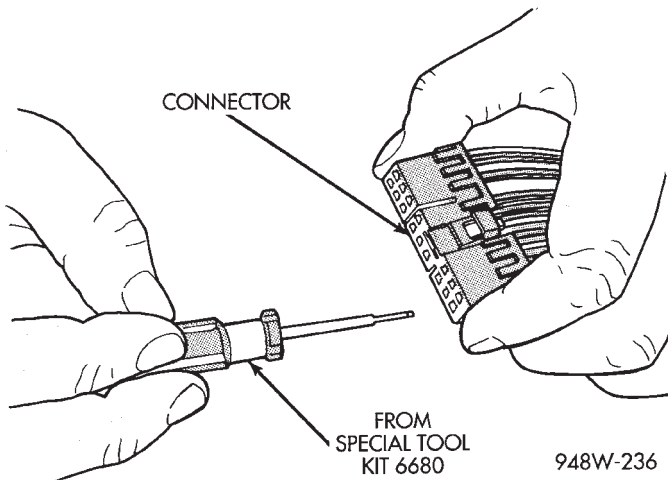
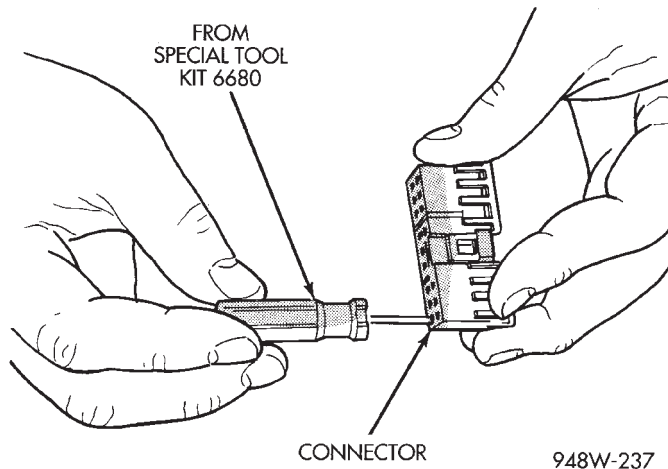

Fig. 18 Terminal Removal
Fig. 19 Terminal Removal Using Special Tool
- (4) Position the connector locking finger away from the terminal using the proper pick from special tool kit 6680. Pull on the wire to remove the terminal from the connector (Fig. 18) (Fig. 19).
- (5) Reset the terminal locking tang, if it has one.
- (6) Insert the removed wire in the same cavity on the repair connector.
- (7) Repeat steps four through six for each wire in the connector, being sure that all wires are inserted into the proper cavities. For additional connector pin-out identification, refer to the wiring diagrams.
- (8) Insert the connector locking wedge into the repaired connector, if required.
- (9) Connect connector to its mating half/component.
- (10) Connect battery and test all affected systems.